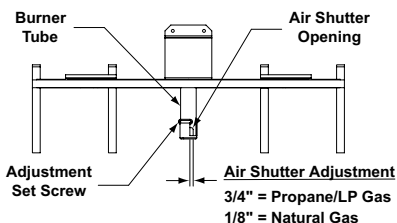

Figure 6 - Adjusting Air Shutter
7. Loosen the set screw on the main burner air shutter, rotate to 3/4" open, and retighten the set screw (see **Figure 6**, page 3).